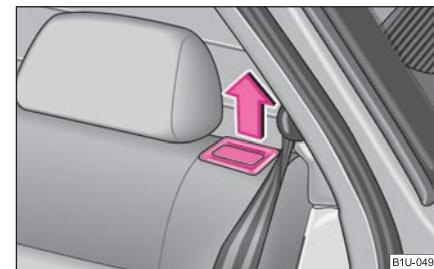

Fig. 60 Unlock the seat backrest
- Unlock the seat backrests by pulling the securing knob ⇒ page 60, fig. 60 and fold them forwards.